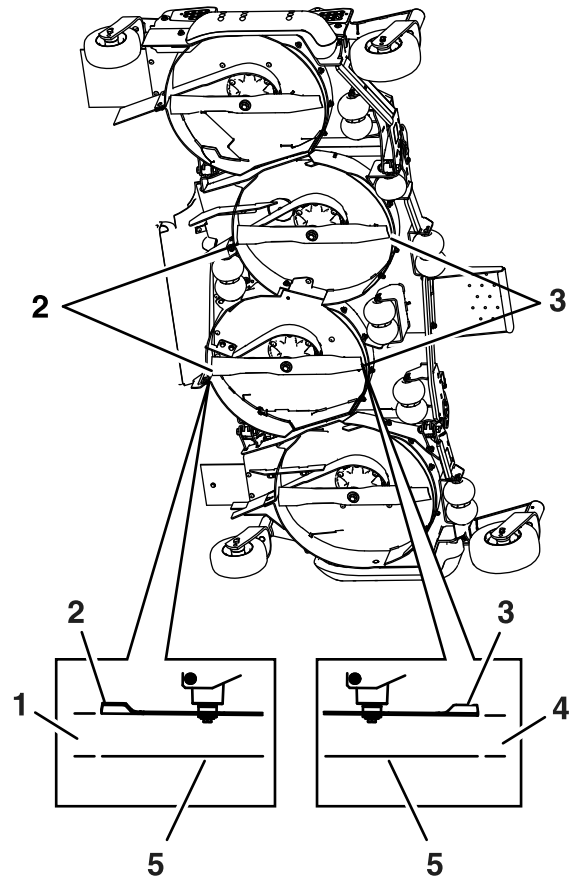

Figure 78
10. Measure from the level surface to the front tip of the left and right center deck blades (Figure 78). The measurement should read 102 mm (4 inches).